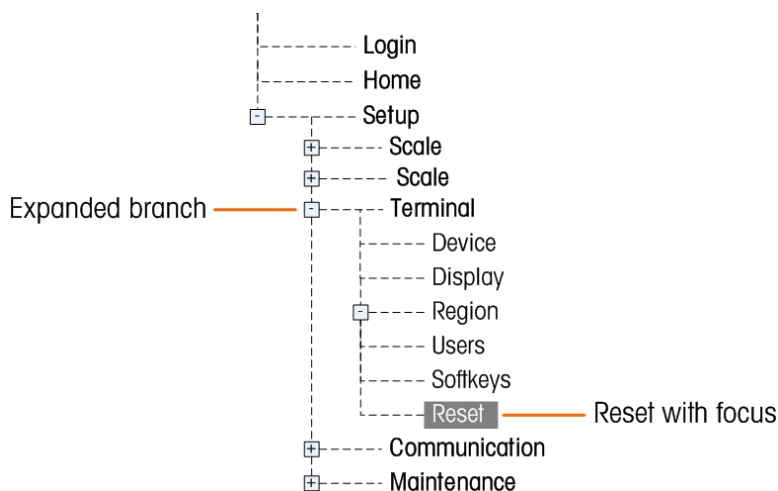

Figure 3-30: Setup Menu Tree – Reset
1. Press the SETUP softkey . The setup menu tree (Figure 3-30) displays.